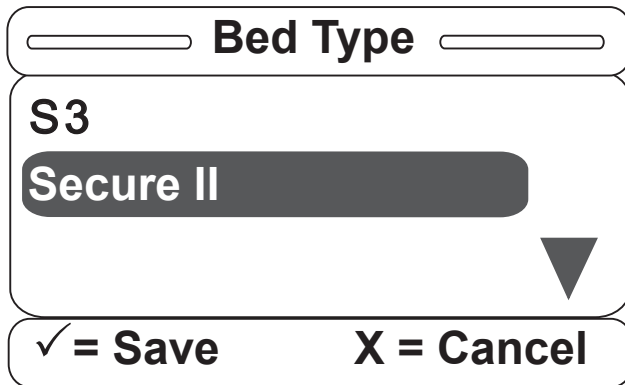

Figure S-2
2. After Bed Type is selected, Figure S-2 will be displayed. Select Secure II and press “Enter” on the footboard panel. If needed, press “Exit” to cancel the operation.